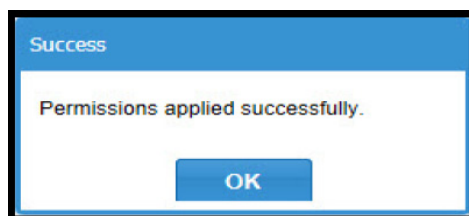

Figure 76 Success message
- If you click **OK**, then the Success message displays, as shown in Figure 76. Clicking **OK** again will close the Success message box.